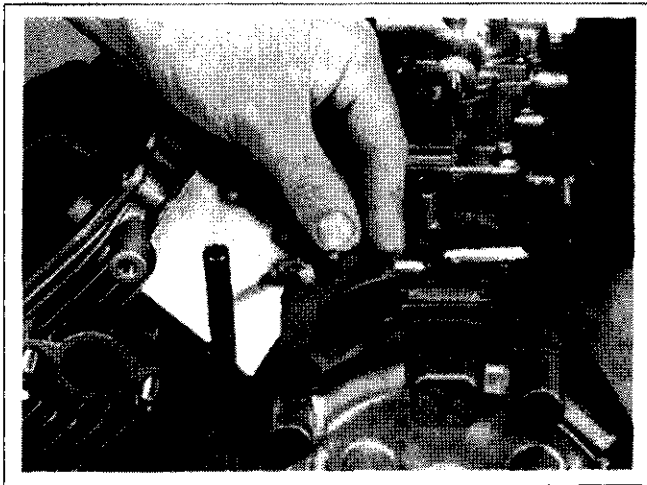

Figure 11-67. Install Governor Arm to Shaft.
1. Install the governor lever onto the governor cross shaft. See Figure 11-67.